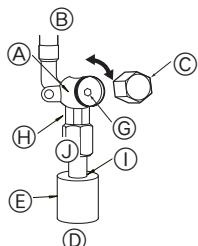
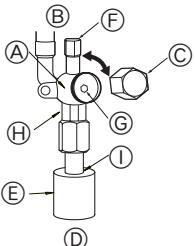

Fig. 4-5
Fig. 4-6
(1) Gas side of P100-P140 (Fig. 4-5)
- ① Remove the cap and turn the valve rod counterclockwise as far as it will go with the use of a 5 mm hexagonal wrench. Stop turning when it hits the stopper. (ø15.88: Approximately 13 revolutions)
- ② Make sure that the stop valve is open completely and rotate the cap back to its original position.
(2) Liquid side of P100-P140 (Fig. 4-6)
- ① Remove the cap and turn the valve rod counterclockwise as far as it will go with the use of a 4 mm hexagonal wrench. Stop turning when it hits the stopper. (ø6.35: Approximately 4.5 revolutions) (ø9.52: Approximately 10 revolutions)